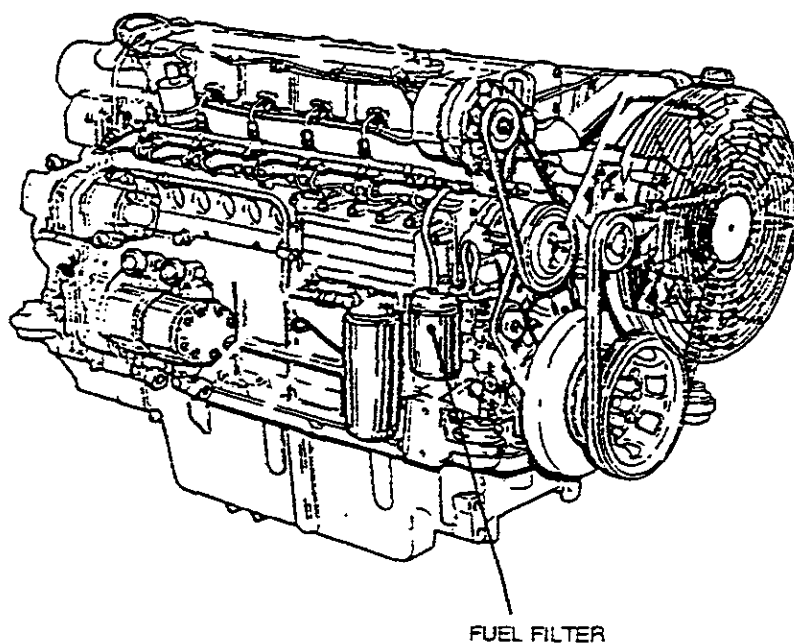

FIGURE 1. FUEL FILTER
- d. Loosen spin-on filter (Figure 1) by turning counterclockwise and discard.